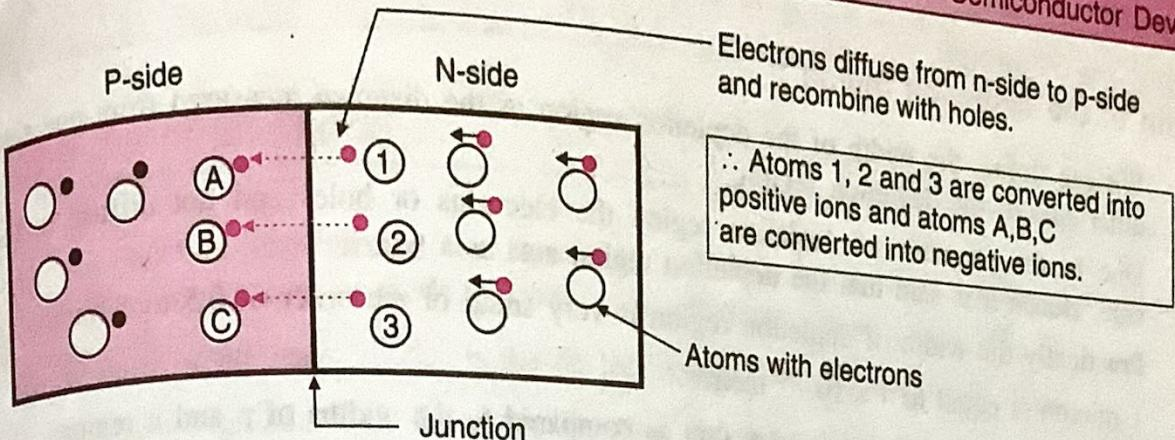

Fig. 10.4.3 : Creation of positive and negative immobile ions
- Each electron diffusing into the "p" side will leave behind a positive immobile ion on the n-side as shown in Fig. 10.4.3.
- When an electron combines with a hole on the "p" side, an atom which accepts this electron, loses its electrically neutral status and becomes a negative immobile ion as shown in Fig. 10.4.3.